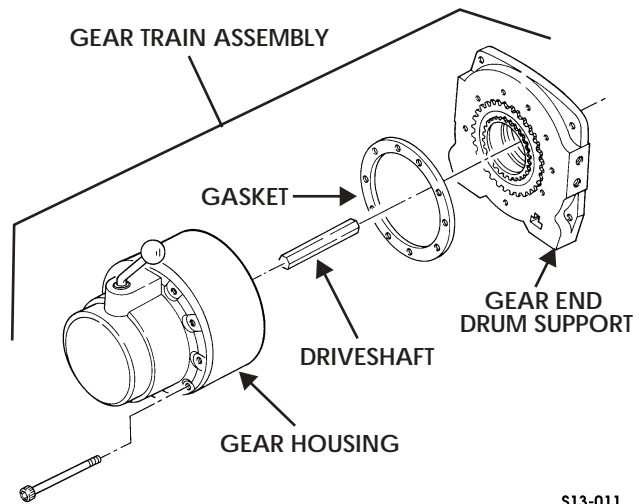

Figure 13-9: Gear Train Assembly
15. Remove driveshaft from gear train assembly (Figure 13-9).